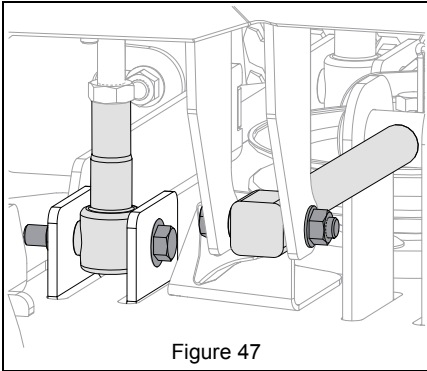

Figure 47
- Position deck under unit. See Figure 47.